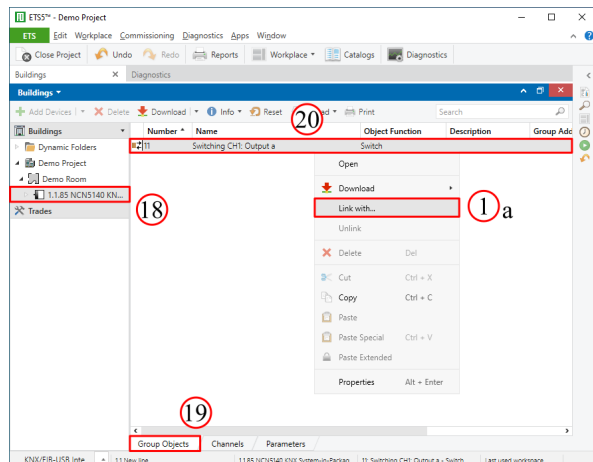

Figure 27. Assigning Group Objects
To assign group objects, click on the evaluation board in the *Buildings* view ⑮ and then on the *Group Objects* tab ⑰ on the bottom of the screen as shown in figure 27.